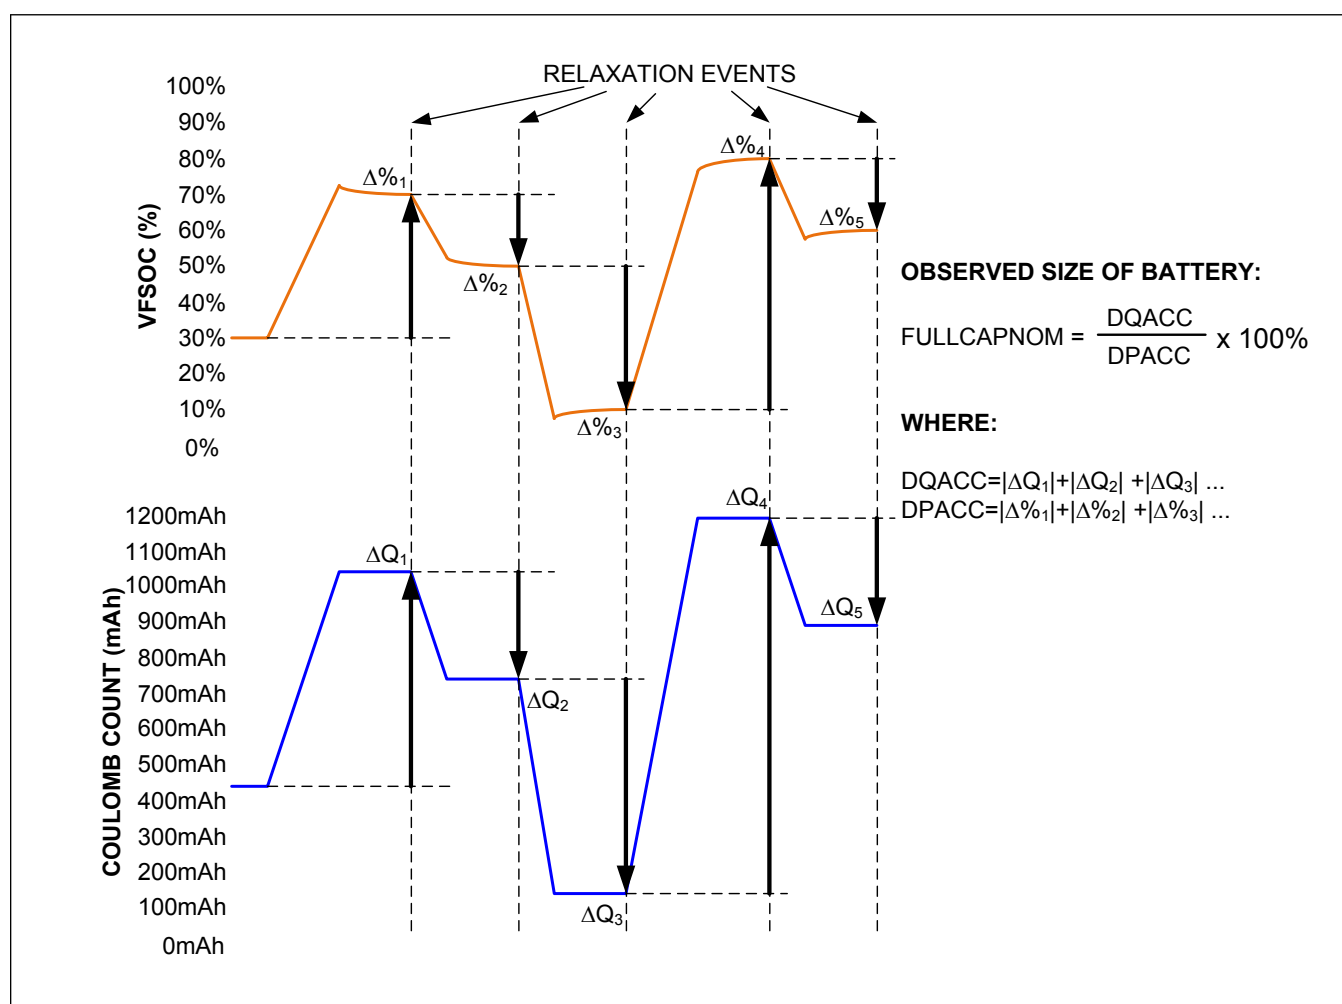

Figure 21. FullCapNom Learning
- **Cell Capacity (FullCapNom Register):** This is the total cell capacity at full, according to the voltage fuel gauge. This includes some capacity that is not available to the application at high loads and/or low temperature. The IC periodically compares percent change based on an open circuit voltage measurement verses coulomb-count change as the cell charges and discharges, maintaining an accurate estimation of the pack capacity in milliamp-hours as the pack ages. See Figure 21.